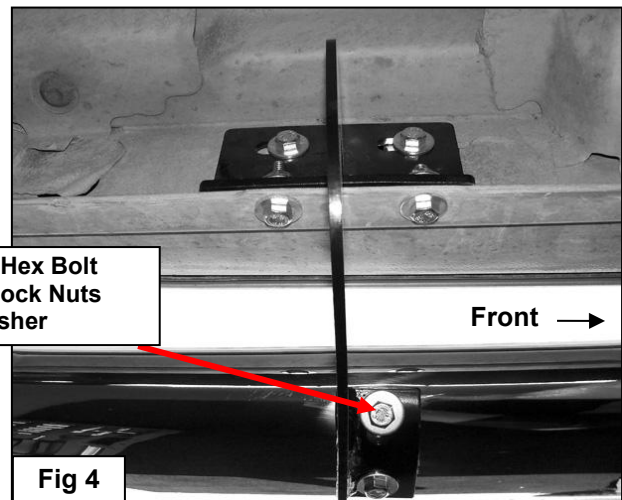

Fig 4
4	Align the bottom holes in the Mounting Brackets with the holes in the pinch weld and attach using the included (4) M6 Square Hex Bolt, (4) M6 Flat Washers and (4) M6 Nylon Lock Nuts, (Fig 4). Do not tighten at this time.